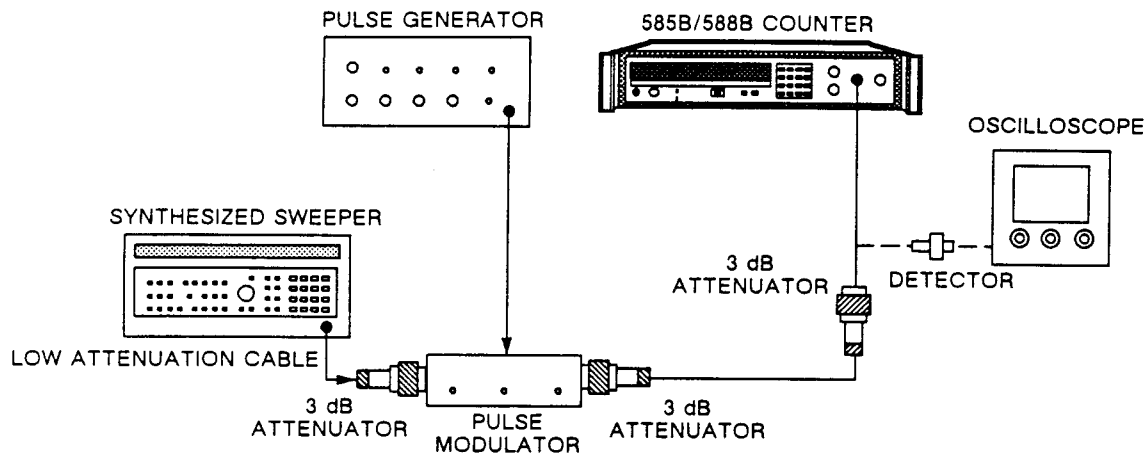

Figure 8-18. Pulse Width Accuracy Test Setup.
1. Connect equipment as shown in Figure 8-18. The 3 dB attenuators should be at IN and OUT ports of pulse modulator and input to counter. Turn equipment on.